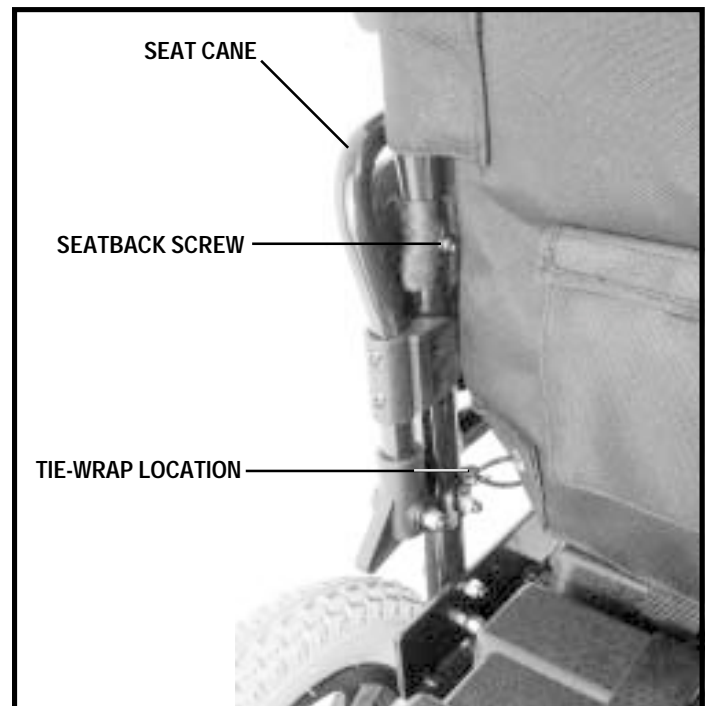

Figure 26. Seatback
2. Depending on the position of the seat and the length of the tie-wrap, you may have to cut the tie-wraps that fasten the seatback to the frame. See figure 26.
1. Remove the seatback screws that attach the seat canes to the frame. See figures 26.